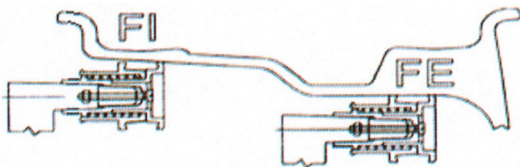
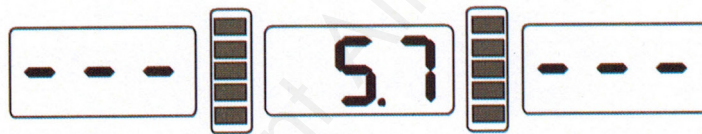
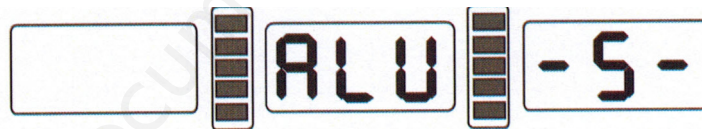

Fig. 7-7
Fig. 7-9
Fig. 7-10
ect figure 7-7 or 7-8, Rotate the measure scale, pull the scale head to inside of the rim(FI) (this position is your select to stick balance weight on the inside), measure distance (a) and diameter (dI) of inside of the rim, ect figure 7-9, then continue rotate measure scale, pull the scale head to outside of rim (FE) (this position is your select to stick balance weight on the outside), measure distance (aE) and diameter (dE) of outside of the rim, ect figure 7-10, enter ALU-S mode.